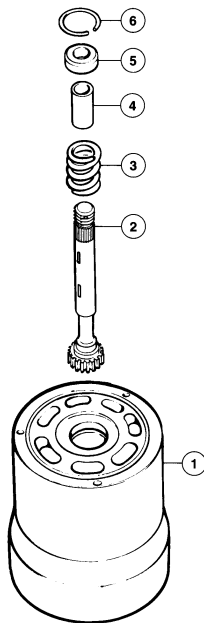

FIGURE 2
See figure 2. Position the barrel (1) with the bores facing down on a clean surface.
PARTS LIST FOR FIGURE 2